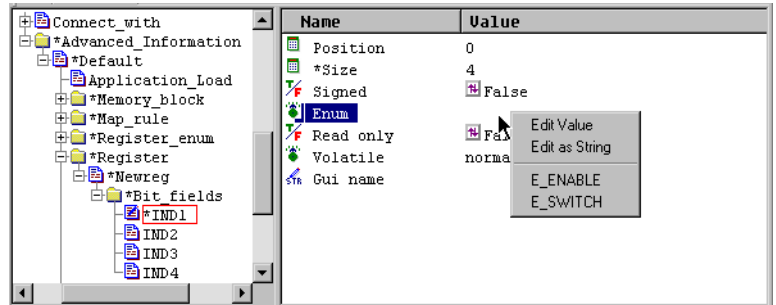

Figure 3-28 Creating bit field descriptions
11. Click IND1, in the left pane and set these values (Figure 3-28 on page 3-31):